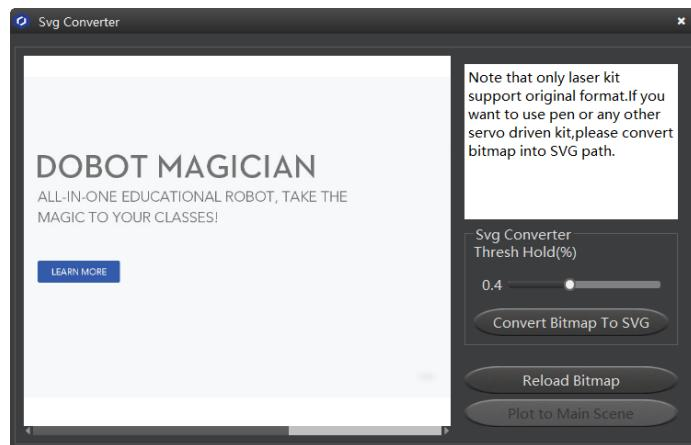

Figure 5.43 Convert an image to SVG
- Click **Open** to import an image file such as BMP, JEPG, or PNG to convert this image to its corresponding SVG file that the DobotStudio supports. Once this image is imported, the **SVG Converter** dialog box is displayed, as shown in Figure 5.43. In this dialog box, drag the slider to set the black and white threshold, and click **Convert Bitmap To SVG** to perform the conversion, and then click **Plot to Main Scene** to display the converted SVG file on the annular area of the **Write & Draw** page.